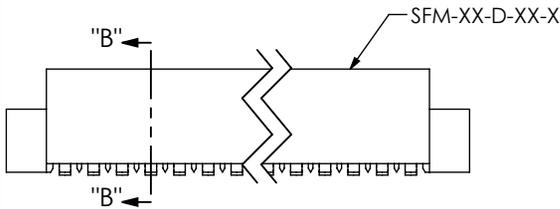

FIG 2
- 02: SURFACE MOUNT (USE CONTACT: C-44-02-XXX) (SEE FIG. 2, SHT. 2)
- L2: SURFACE MOUNT (LOW INSERTION) (USE CONTACT: C-61-02-XXX) (SEE FIG. 2, SHT. 2)
- T2: SURFACE MOUNT (PHOS BRONZE) (USE CONTACT: C-119-02-XXX) (SEE FIG. 2, SHT. 2)
(SAME AS FIG 2, DIFFERENT AS SHOWN)